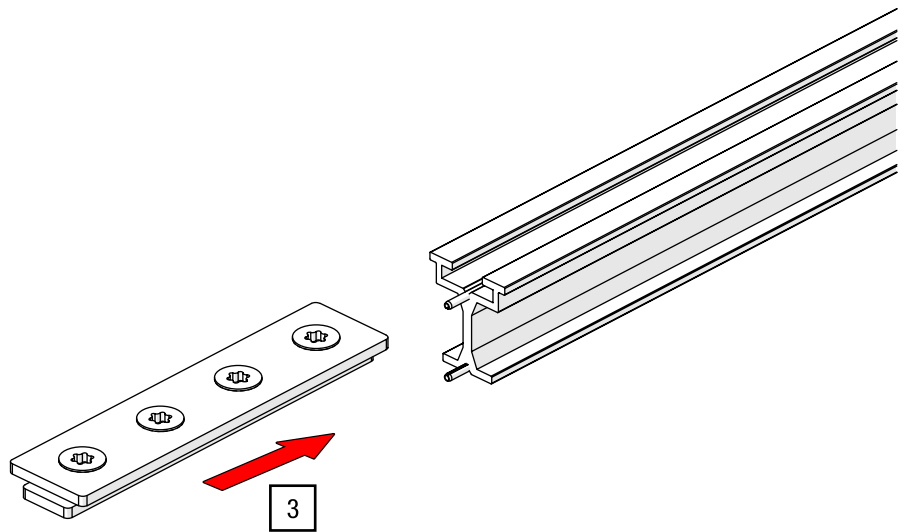

Fig. 44: Track splice – Insert into track
3. Push the pre-assembled track splice completely into the top groove of the track section (see Fig. 44).